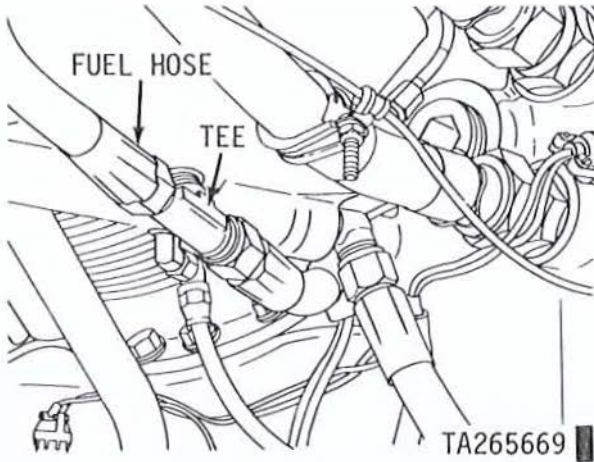
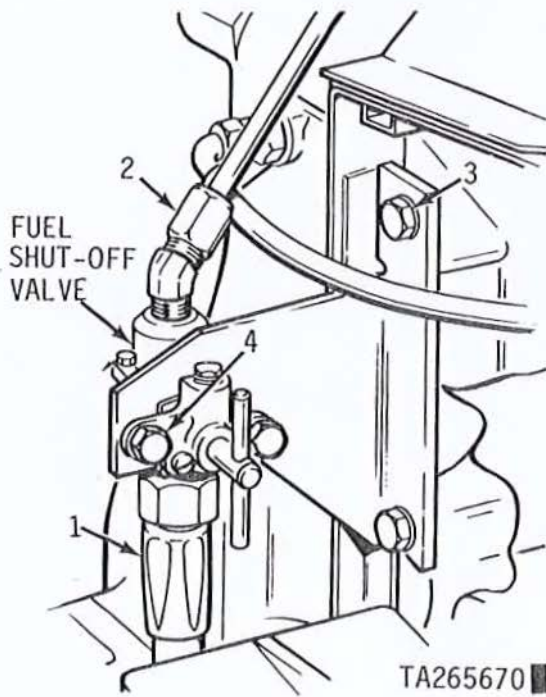

Figure 3-5.1. Removing or installing smoke generating system fuel hose.
Figure 3-5.2. Removing or installing smoke generating system shut-off valve.
a. Disconnect fuel hose from fuel/water separator tee (fig. 3-5.1). Remove fuel hose (1, fig. 3-5.2). Disconnect fuel outlet tube (2). Remove